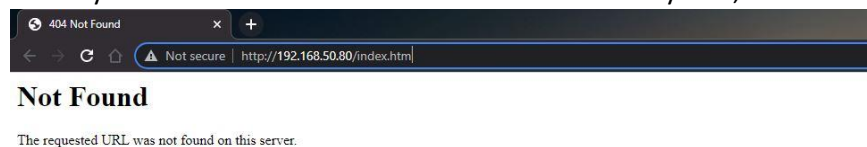

Figure 11-1: The webpage will display this message if the URL is not ending in HTML.
Step 4: Check to see if you have a html at the end of the URL. If it is only htm, it will look like Figure 11-1.